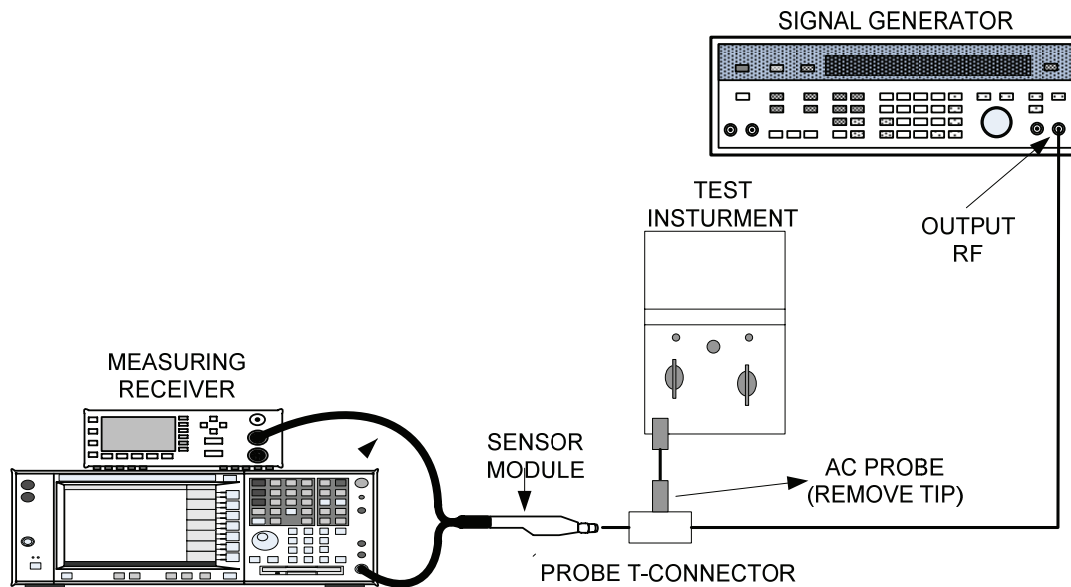

Figure 2. Frequency response setup.
- (10) Connect measuring receiver sensor module input to calibrator **OUTPUT HI** and **LO**.
- (11) Set calibrator to **OPERATE**.
- (12) Set measuring receiver to measure RF power in dBm at 1 MHz. Record measuring receiver indication.
- (13) Set calibrator to **STANDBY** and disconnect from measuring receiver.
- (14) Connect equipment as shown in figure 2.